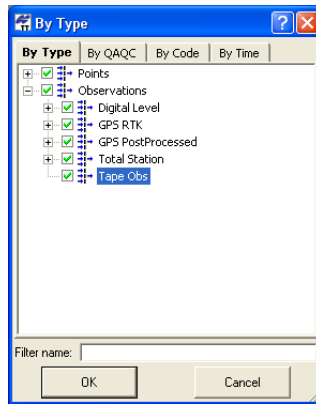

Figure 4-68. Filter by Parameters Dialog Box
**parameters.** The *Filter by parameters* dialog box displays (Figure 4-68 on page 4-70).
This dialog box has four filter types: *By Type*, *By QAQC*, *By Code*, and *By Time* (Figure 4-68).